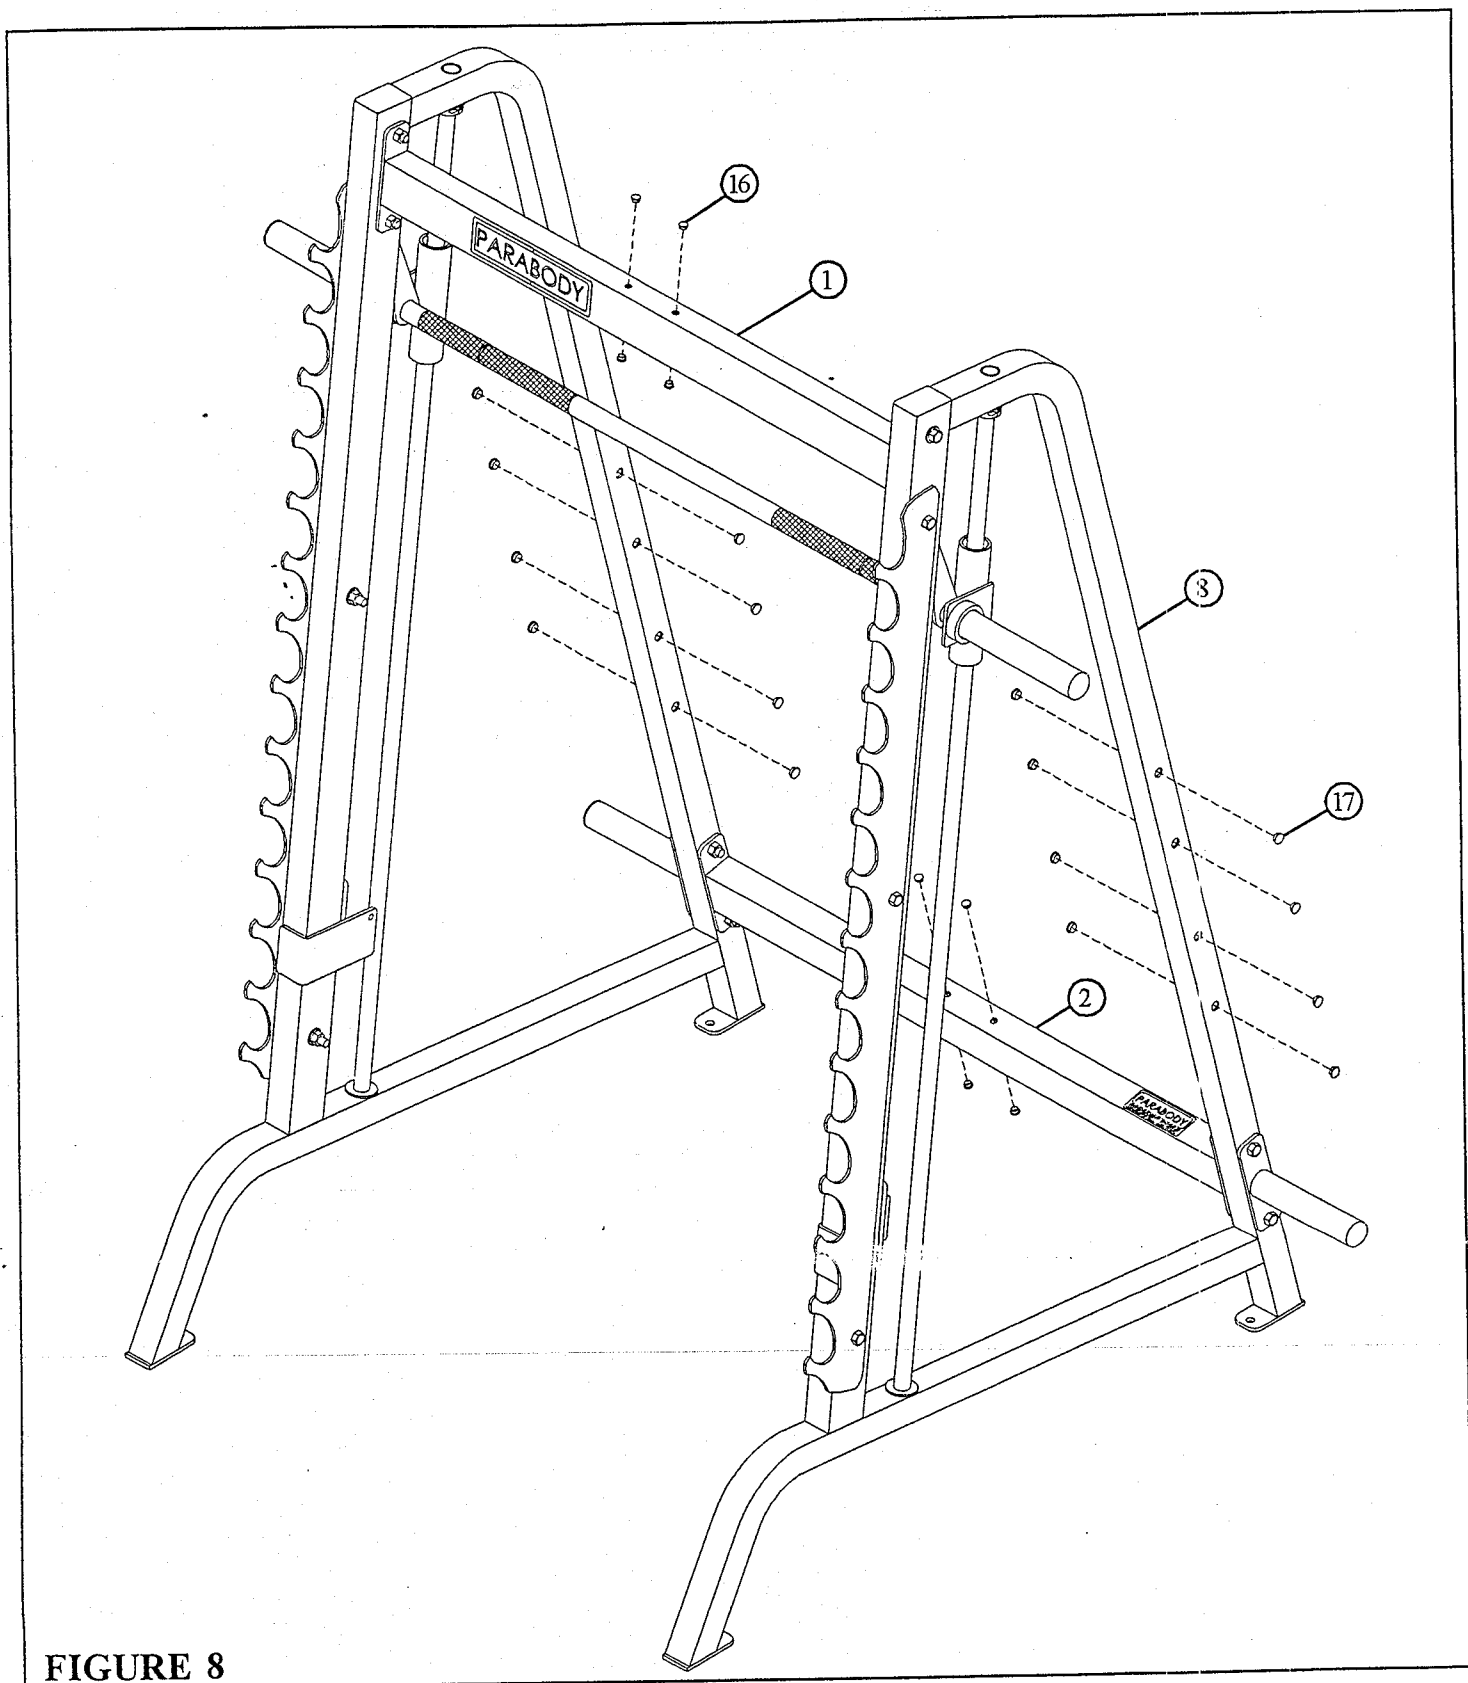

FIGURE 8
- Insert sixteen 9/16" CAP PLUGS (17) into the exposed holes in the UPRIGHT FRAMES (3) as shown in FIGURE 8.
- Insert eight 7/16" CAP PLUGS (16) into the exposed holes in the UPPER & LOWER CROSS BRACES (1 & 2) as shown in FIGURE 8.